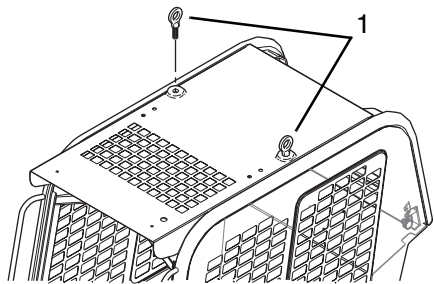

Figure 9-31 Operator Protective Structure
2. Attach a suitable lifting device to both forged steel hoist eyes (Fig. 9-31, 1).
11. Remove the lifting equipment and the hoist eyes (Fig. 9-31, 1) from the top of the Operator's Protective Structure, and replace the plastic plugs in each hole.